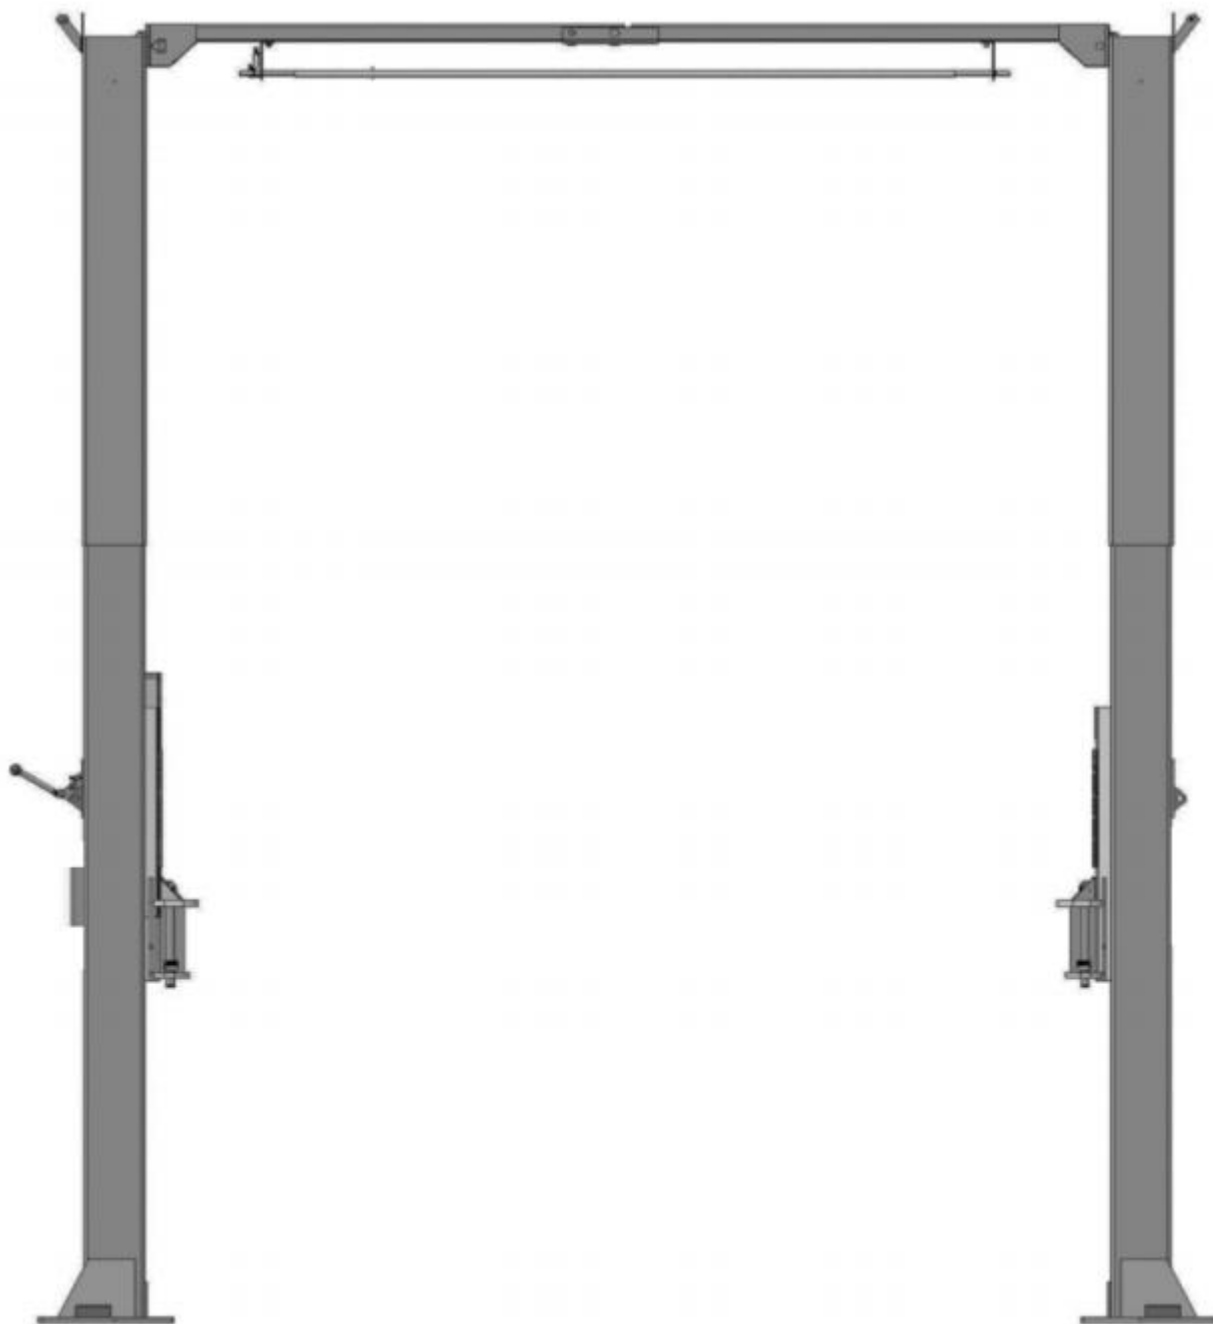

Fig. 26
K. Lift the carriages up manually and set on the 1st set of locks. (See Fig. 26).